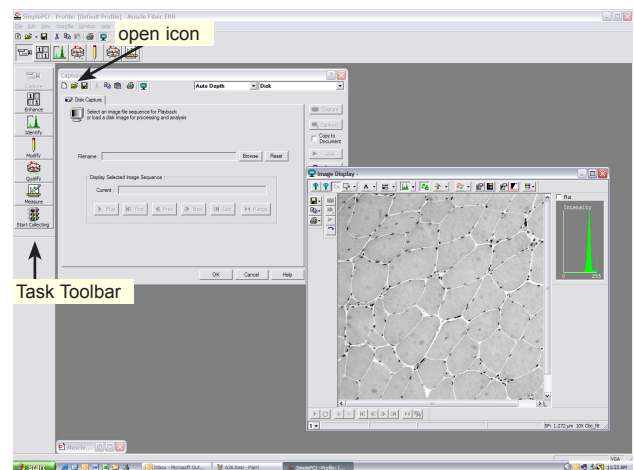
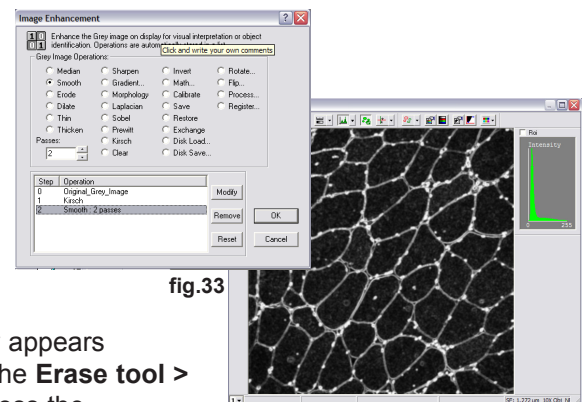
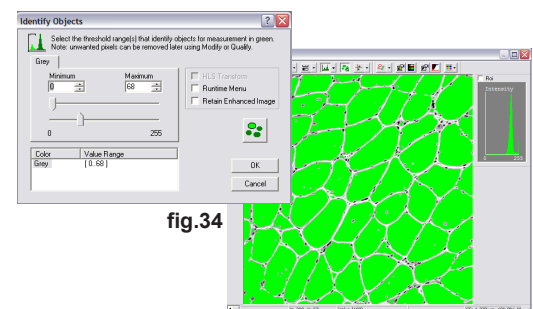

fig.32
fig.33
fig.34
2. Click the camera icon to activate the **Capture** window and the **Image Display** (fig.32).
3. Select **Disk** from the top-right dropdown menu (fig.32). Click the **Open** icon in the **Capture** window. Locate **muscle.tif** in the example CD. **Examples/Examples/Images/muscle.tif > Open**. The image will appear in the **Image Display**.
4. Close the **Capture** window. Click the **Enhance** icon in the **Task** toolbar (fig.32). Apply a **Kirsh** and two passes of the **Smooth** filter to the image (fig.33). The **Kirsh** filter will highlight fiber boundaries by using a gray slider intensity gradient within a 3x3-pixel neighborhood of any direction.
5. Click the **Identify** icon in the **Task** toolbar (fig.32). Adjust the minimum to 0 and the maximum to 68 or move the sliders until the muscle fiber is covered with a green binary overlay (fig.34).